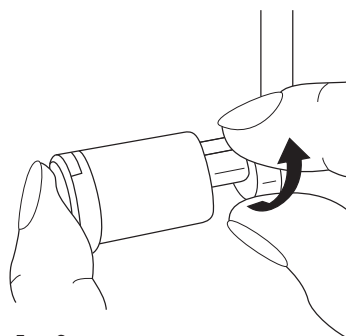

Fig. 2
For this, press the upper blade ❶ to the right and rotate it a little, so that it is firmly seated (Fig. 2 and 3).